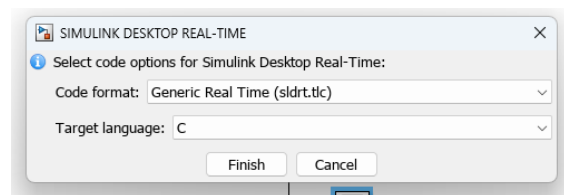
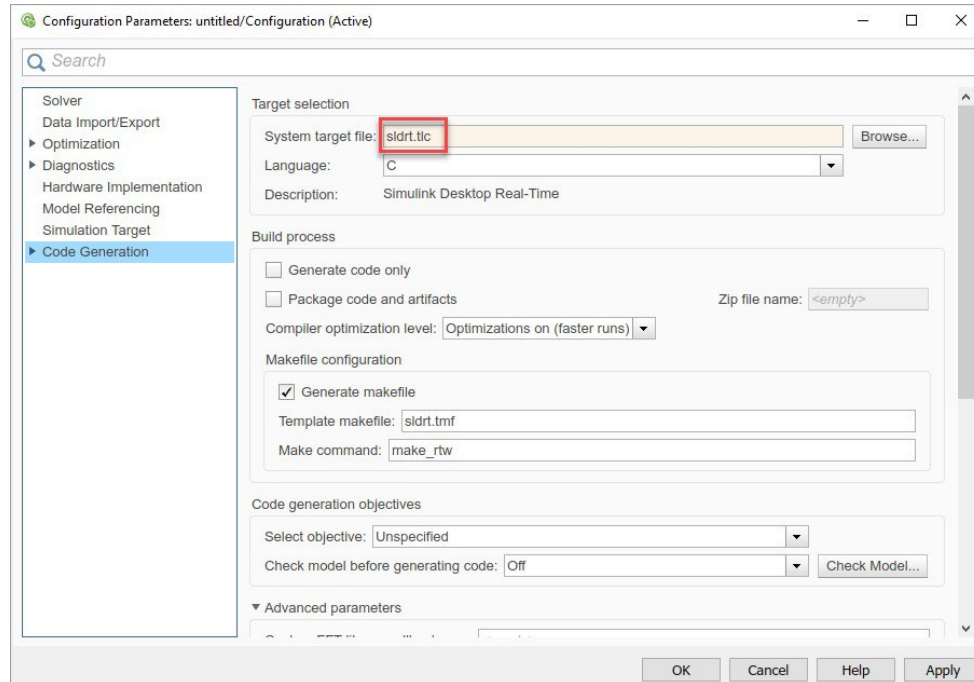

Figure 14 – Desktop Real-Time Setup
Figure 16 – Model Configuration Parameters
- **Note:** If when setting up the desktop real-time environment you got a window as shown in Figure 14, ensure that the code format is set to be `sldrt.tlc`, as shown below:
21. From Code Generation, if a window appeared when setting up the desktop real-time environment (see Figure 14), ensure that the system target file is set to the system target file to `sldrt.tlc` and set it to that if it is not (see Figure 16).